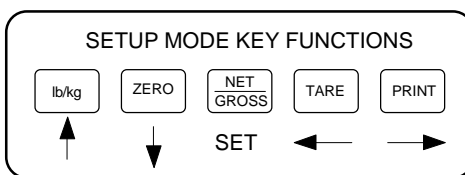

Figure 6-1: Setup Menu Key Assignments
3. Use the four directional keys (shown in Figure 6-1 below) to adjust the displayed value to the actual test weight value. Increase the flashing digit by pressing the lb/kg key. Decrease the flashing digit by pressing the ZERO key. Pressing the PRINT key or the TARE key will change the position of the flashing digit.
2. The display will momentarily show "**CAL 0**", followed by a flashing zero. Use the four directional keys (shown in Figure 6-1) to adjust the displayed value to the zero calibration value.
2. The display will momentarily show "**CAL 1**", followed by a flashing zero. Use the four directional keys (shown in Figure 6-1) to adjust the displayed value to the span calibration value.